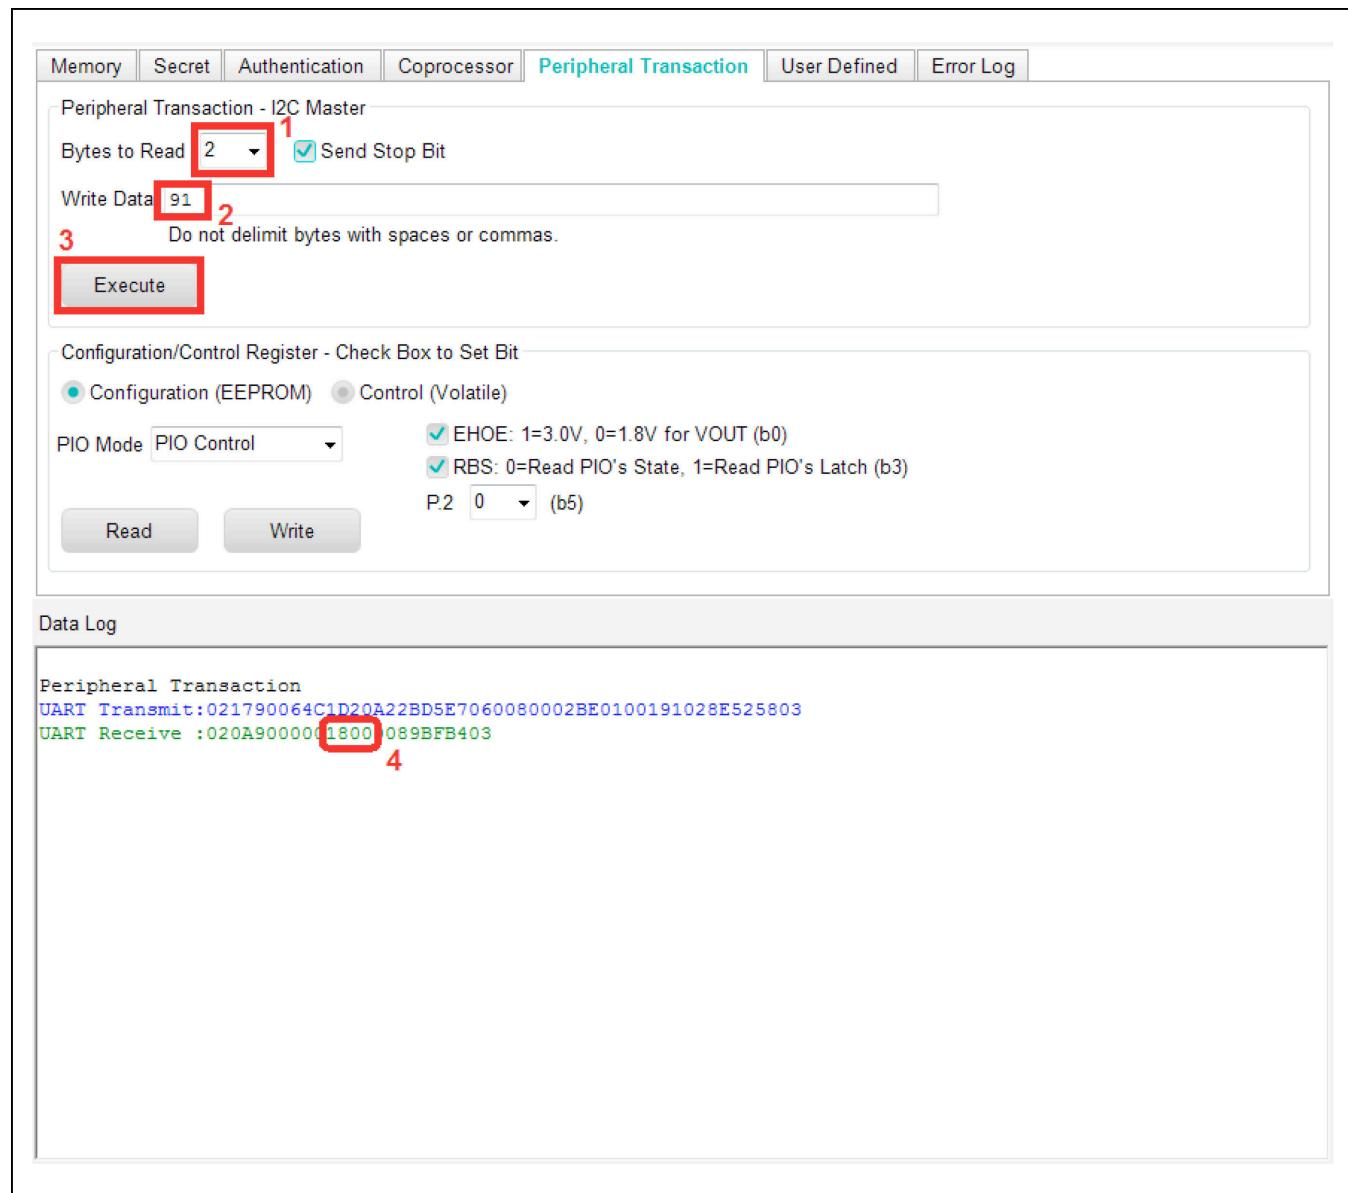

Figure 42. Temperature Read Button
- 5) First, set the **Bytes to Read** to-be '2'. Second, set the I2C address in the **Write Data** field to be '91h' (with read bit set). Third, click the **Execute** button. Fourth, verify the temperature returned from the I2C bus. In this example, the bytes '1800h' read corresponds to a temperature of 24.0°C from the DS75S (Figure 42)